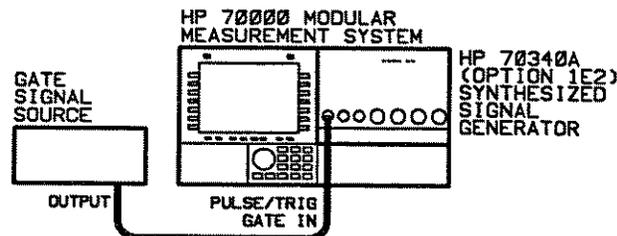

Figure 3-6. External Pulse Modulation Equipment Setup
1. Connect the equipment as shown in Figure 3-6.